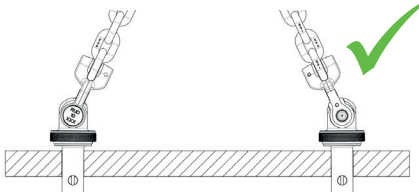

Fig. 10: Permitted WLL and ring assembly alignment
- For every single WLL, align the PIP-RAPIDO in the direction of force (cf. Fig. 10 and Table 5).